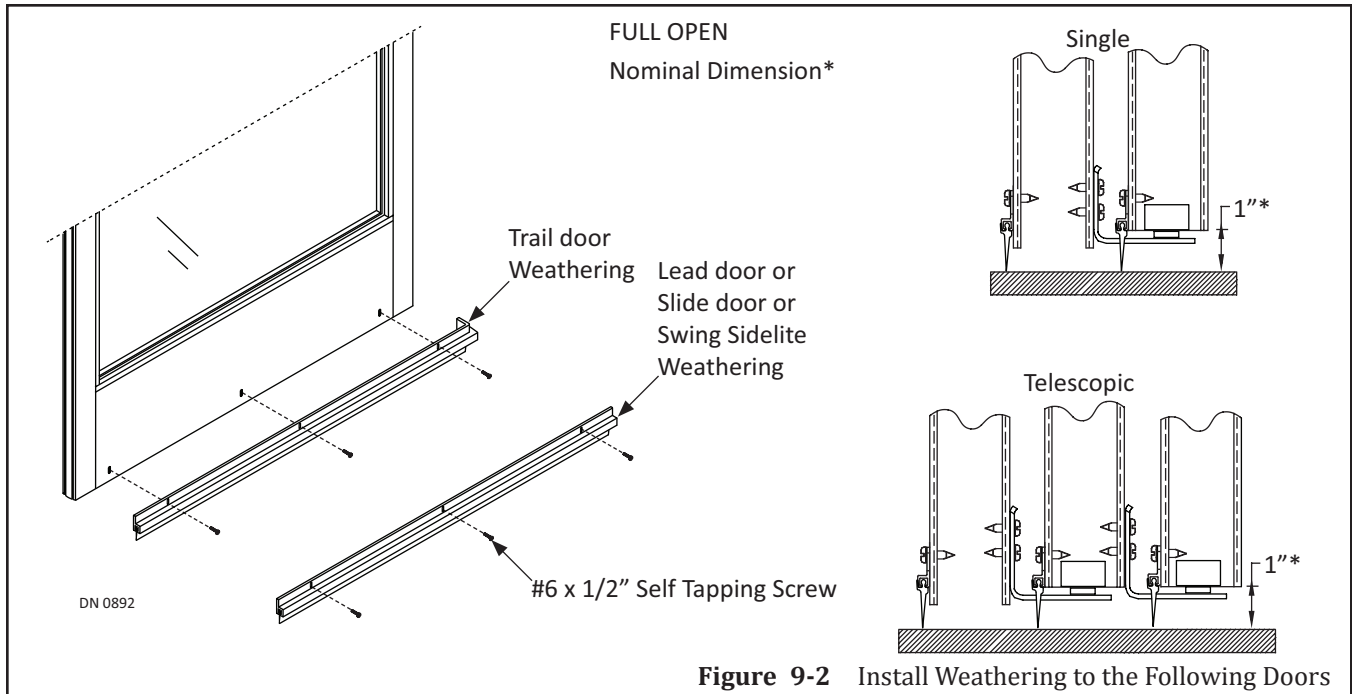

Figure 9-2 Install Weathering to the Following Doors
1. Obtain (1) Brush Holder and (1) Vinyl provided by NABCO.
3. Secure the Brush Holder against the Bottom Rail of Slide door or Lead door with (3) #6 x 1/2 inch self tapping screws. Please see Figure 9-2.
1. Obtain (1) Bent Brush Holder and (1) Vinyl provided by NABCO.
4. Secure (1) Bent Brush Holder against the Bottom Rail of Trail door with (3) #6 x 1/2 inch self tapping screws. Please see Figure 9-2.